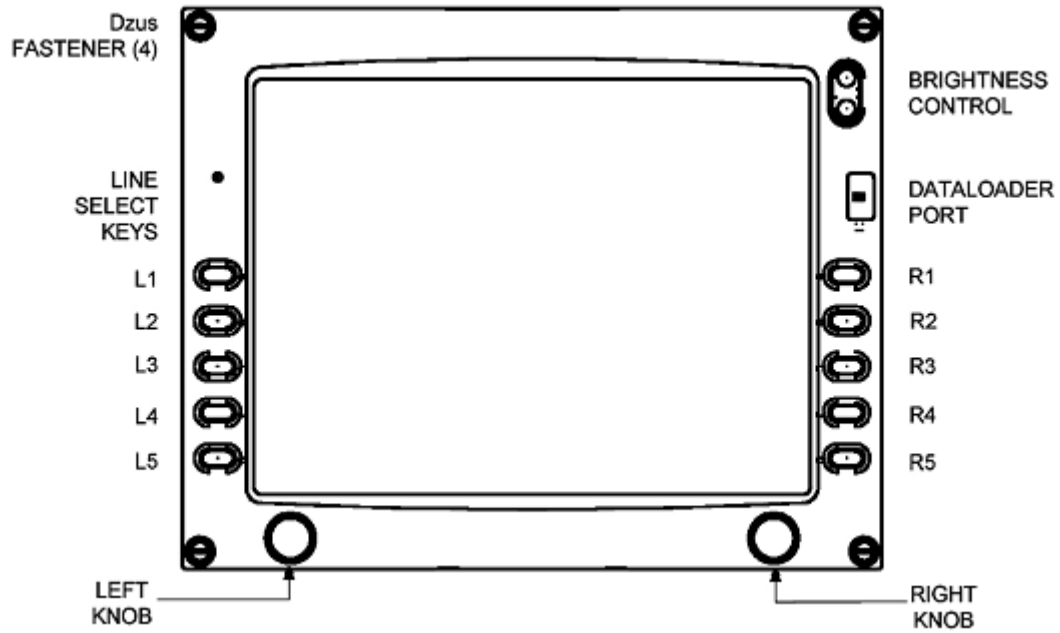

Figure 6: EX3000/EX5000 Landscape Front View
4. Simultaneously press and hold buttons L1 (top left) and L3 (3rd down on the left) (See Figure 6 on page 23) for at least 5 seconds.